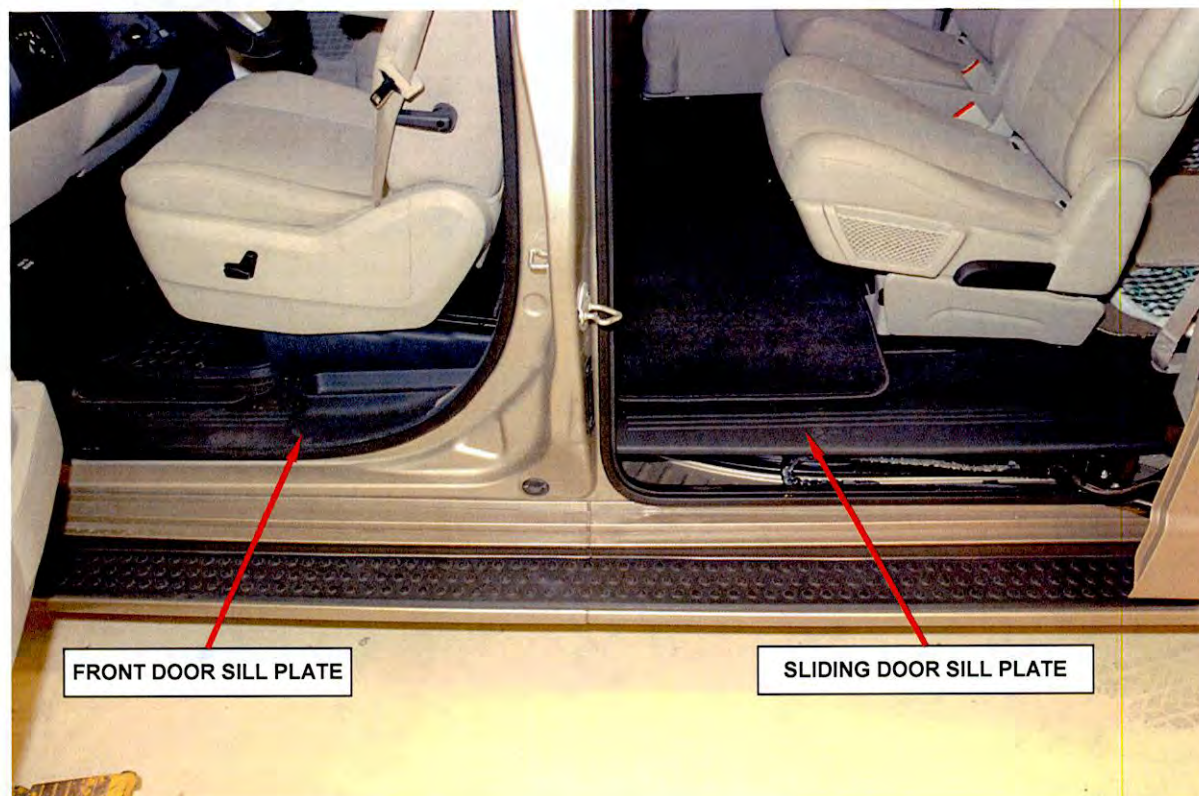

Figure 3 – Sill Plate Removal
6. Carefully unsnap the front door sill plate and sliding door sill plate by lifting the inside edge of the sill plates (Figure 3).
28. Carefully snap the front door sill plate and sliding door sill plate in place (Figure 3).